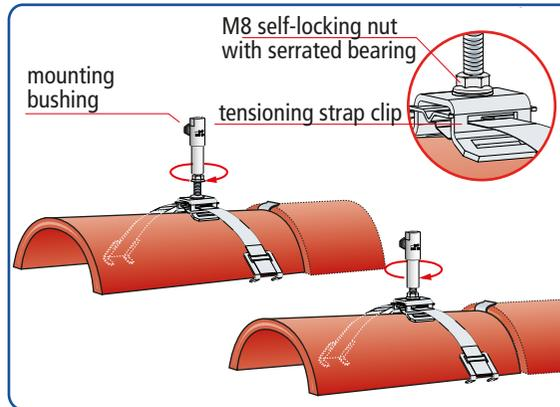

Fig. 3
- ➔ After that, screw the M8 self-locking nut with serrated bearing down tight to the tensioning strap clip using a tightening torque of 10 Nm (see Fig. 3). Lock the mounting bushing to the self-locking nut with serrated bearing.